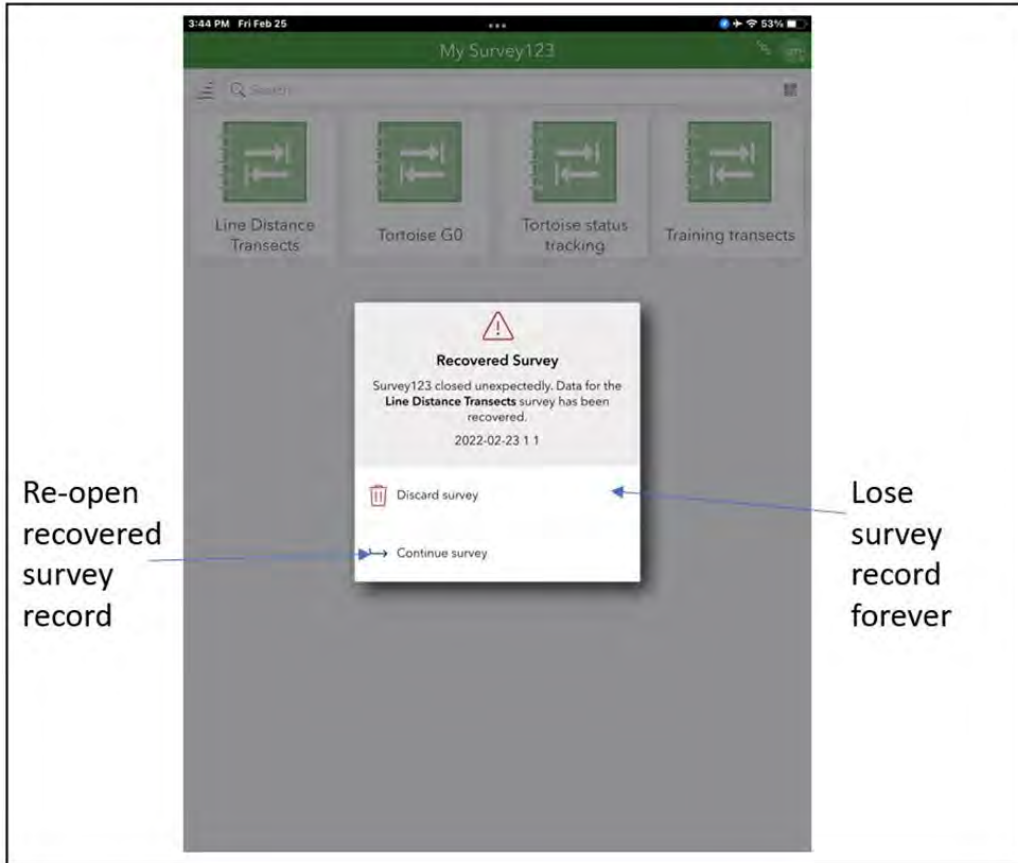

Figure 7-14
- 1. Recover Survey123 forms:** The equipment you will be using is good, but not perfect; and at some point during your surveys, chances are that the batteries will run out or the iPad will crash. Survey123 auto-saves in-progress forms as fields are completed. But it is important to understand how to properly restore data after an unexpected malfunction so that data is not lost completely. If the app crashes or the iPad mini shuts down while a survey is in progress the app will automatically recover the in-progress survey once the app is reopened. When prompted with the “Survey Recovered” window tap “Continue Survey” (Figure 7-14). Do not tap “Discard Survey,” the data will be deleted and can no longer be recovered.